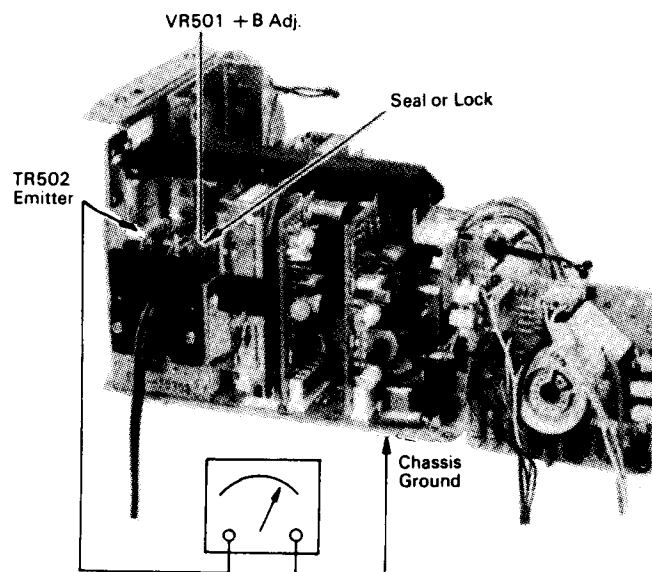

FIGURE 1
1.0 + 127V ADJUSTMENT (See Fig. 1)